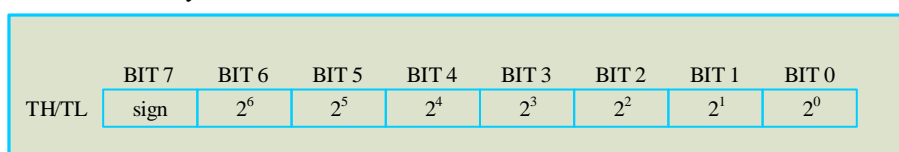

Figure 3. TH and TL Register Format
After the GX18B20H performs a temperature conversion, the temperature value is compared to the user- defined two's complement alarm trigger values stored in the 1-byte TH and TL registers (see Figure 3). The sign bit (S) indicates if the value is positive or negative: for positive numbers S = 0 and for negative numbers S = 1. The TH and TL registers are nonvolatile (EEPROM) so they will retain data when the device is powered down. TH and TL can be accessed through bytes 2 and 3 of the scratchpad as explained in the Memory section.